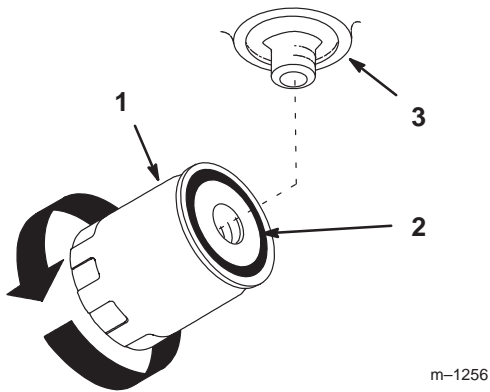

Figure 45
4. Apply a thin coat of hydro fluid to the rubber gasket on the replacement filter (Fig. 45).
7. When fluid overflows the filter, turn the oil filter clockwise until the rubber gasket contacts the filter adapter; then tighten the filter an additional 1/2 turn (Fig. 45).